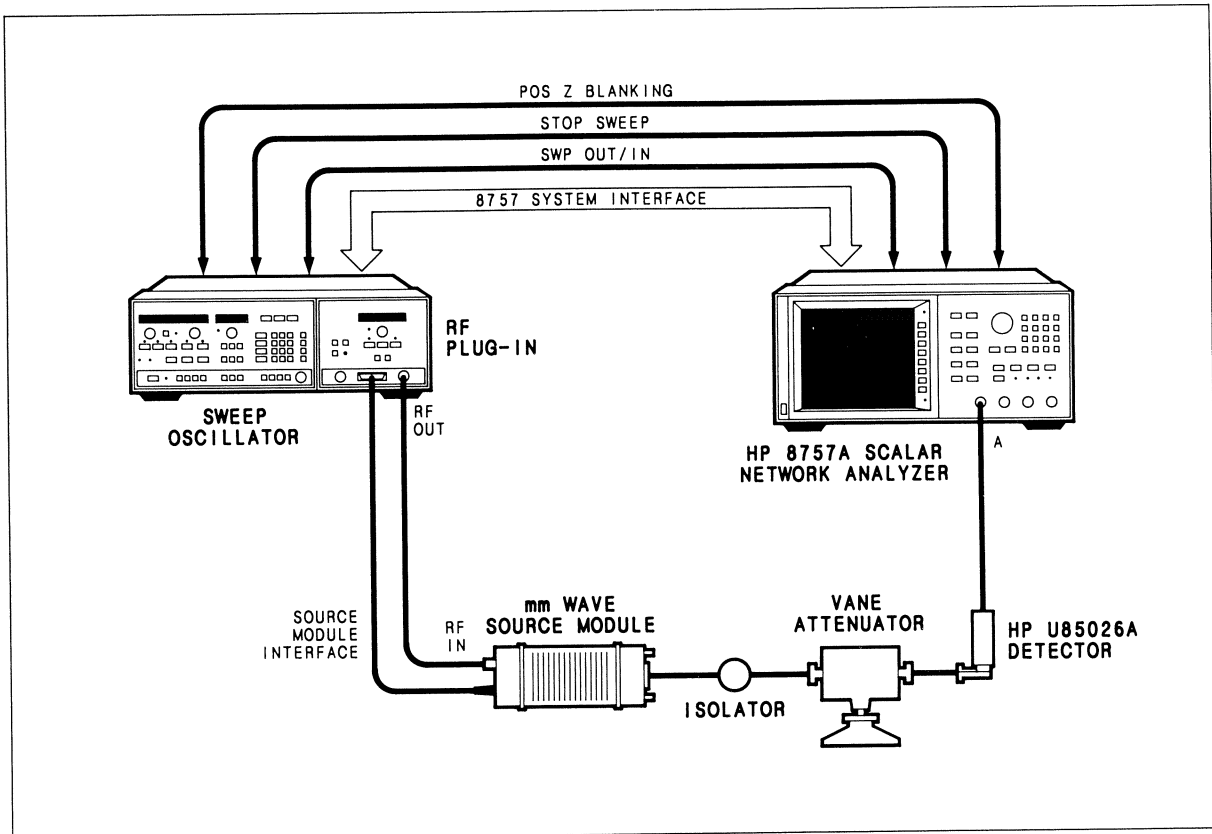

Figure 2-5. Equipment Setup for Operator's Check
1. Connect the equipment as shown in Figure 2-5. Allow 30 minutes for warm-up.